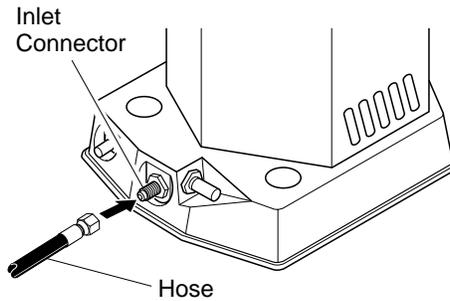

Figure 3 - Hose and Inlet Connector
3. Connect hose to the inlet connector (see Figure 3). Tighten firmly using a wrench.